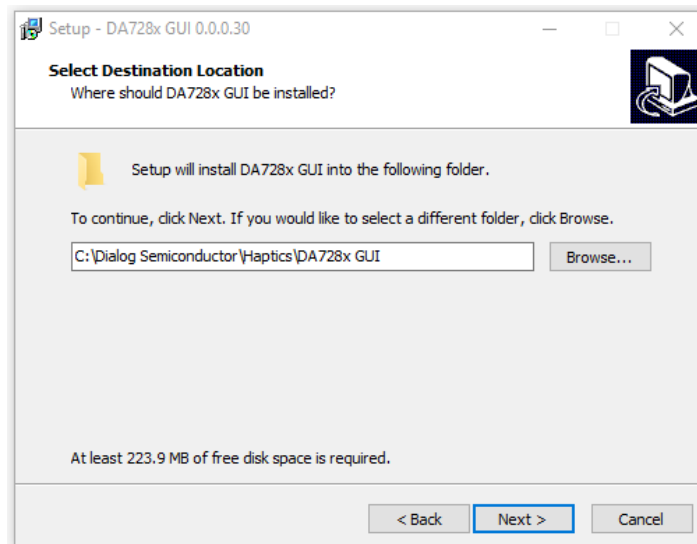

Figure 14. Select installation location
3. Select the destination location for the SmartCanvas DA728x GUI to be installed and click **Next** (Figure 14).